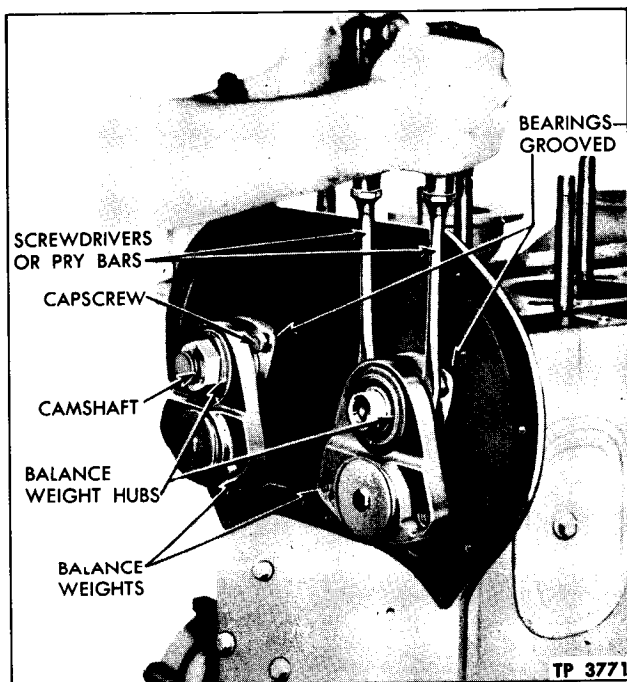

Figure 62—Removing Balancer Weight Assemblies
5. Remove balance weight assemblies by using two heavy screwdrivers, or pry bars, between heads of bearing retainer bolts and balance weight hubs, as shown in figure 62. Remove Woodruff keys.